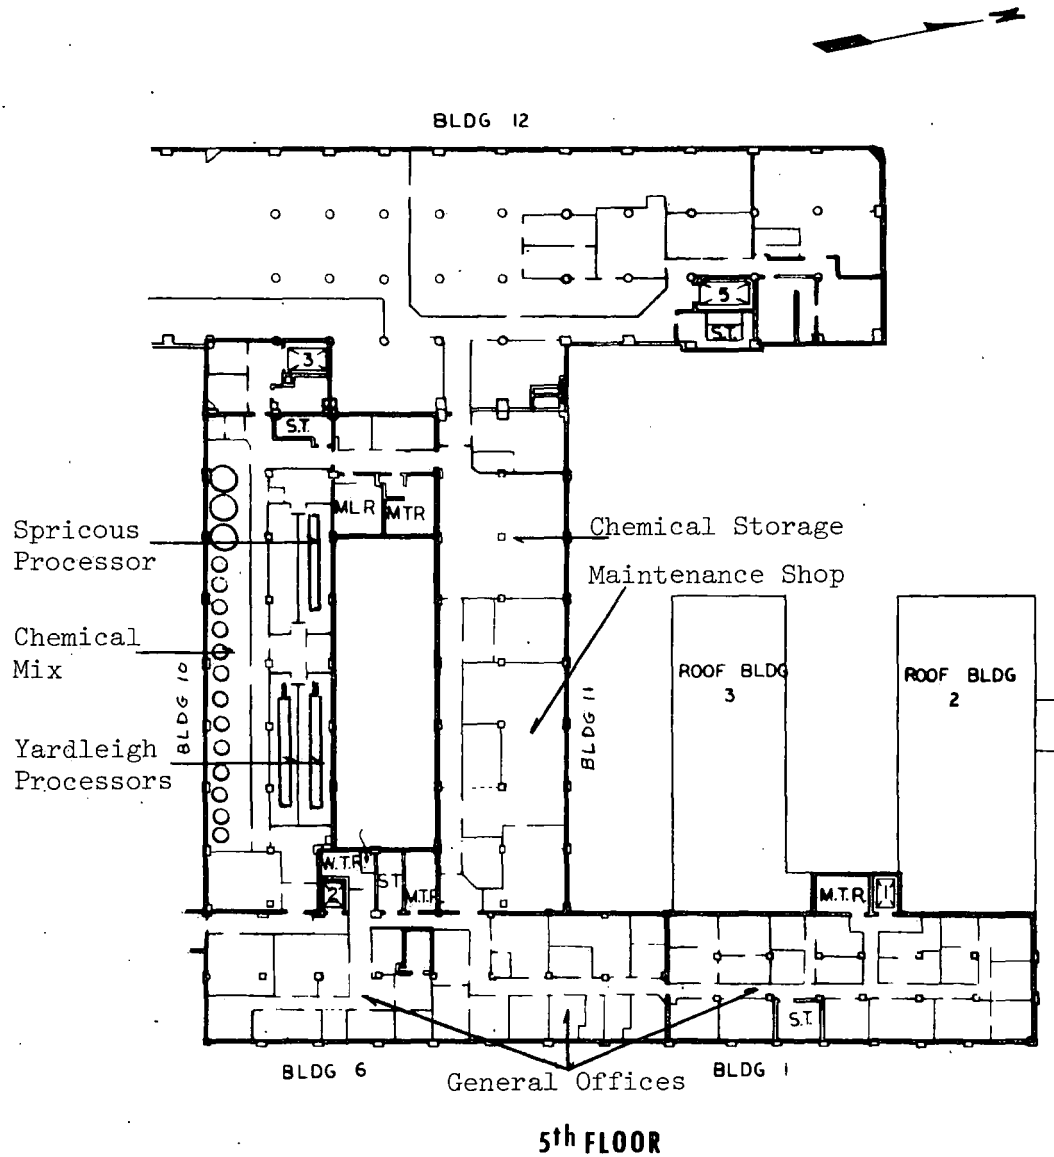

Figure 7
- 5th Floor - Bldgs. 1-6-10-11 (Figure 7)